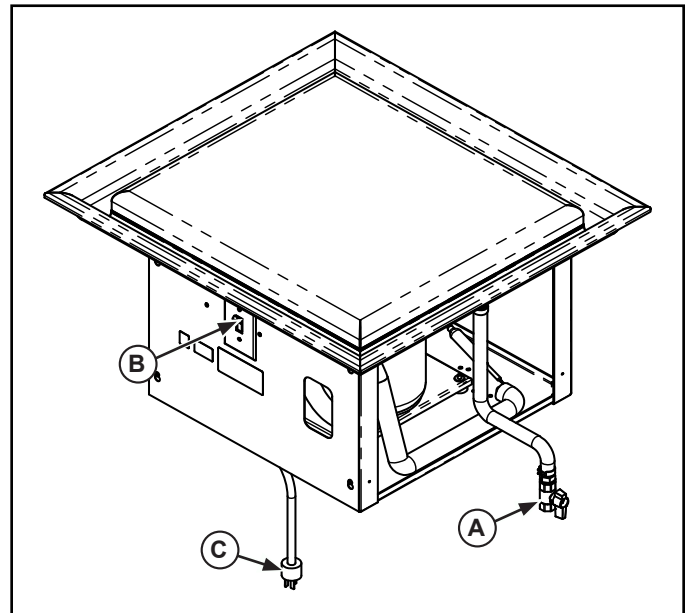

Figure 1. Features and Controls.
1. Check the drain valve (A) to verify it is in the CLOSED position to prevent water from draining out. See Figure 1. The valve is in the CLOSED position when the handle of the valve forms a "T" with the body of the valve.
3. Turn the power switch (B) to the "ON" position. This unit does not have an adjustable temperature setting. Allow the unit to run for approximately 30 minutes. For the best performance when using ice with this unit, allow unit to run for approximately 2 hours before adding ice. This will help the ice remain solid.